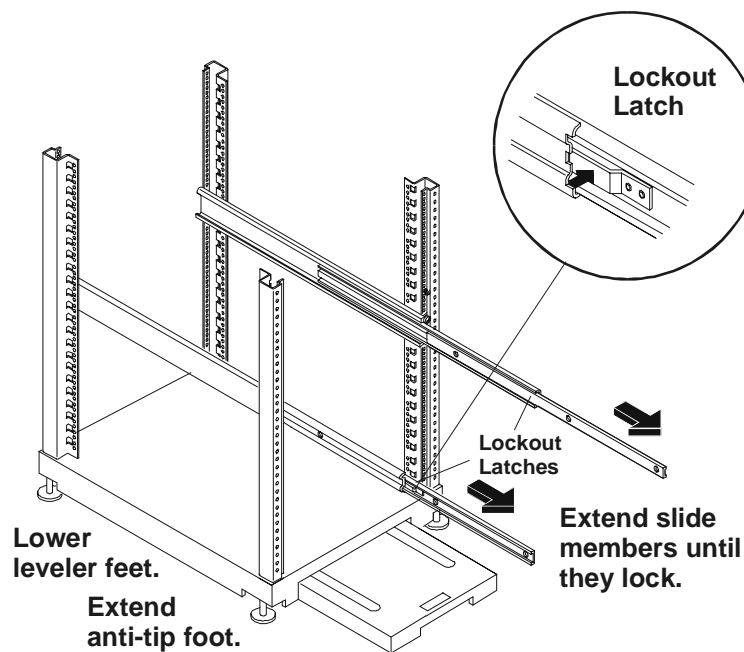

Figure 8-9. Preparing the Rack for HP NetServer Installation
1. Lower the four rack leveler feet to the floor, lifting the rack off the rack wheels (see Figure 8-9).